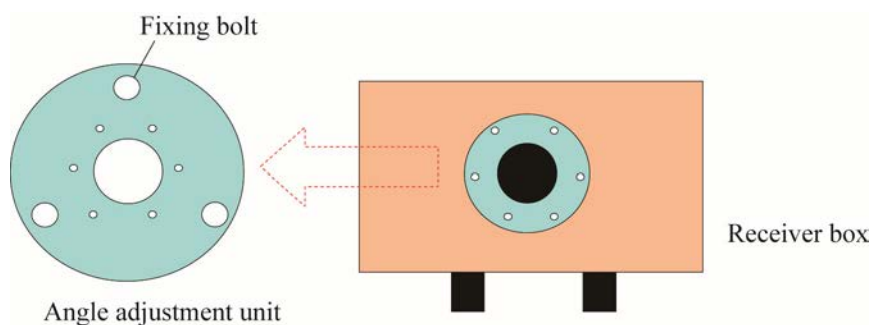

Fig. 4—8
- (1) When the flanges A and B shown in Fig. 4—4 are extremely tilted, adjust them in a flat place before mounting them to the stack so that they are parallel to each other. Refer to “4.7.1 How to use the angle adjustment unit 1”.
- (2) Attach the angle adjustment unit to the companion flange in a manner that:
- Make sure the fixing bolts come to the positions shown in Fig. 4—8.